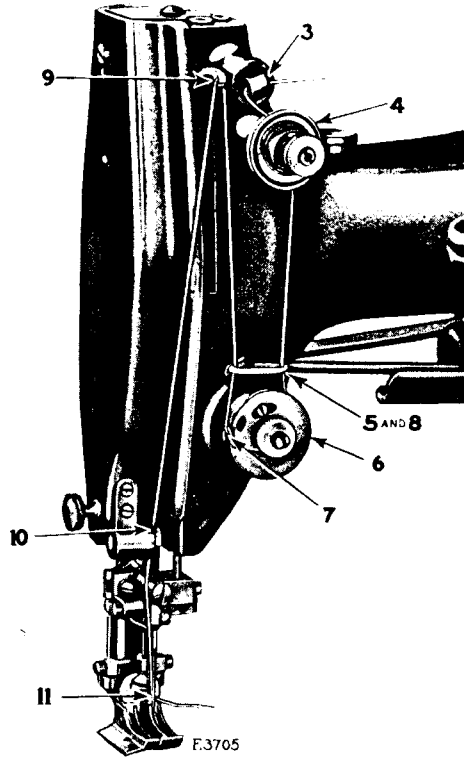
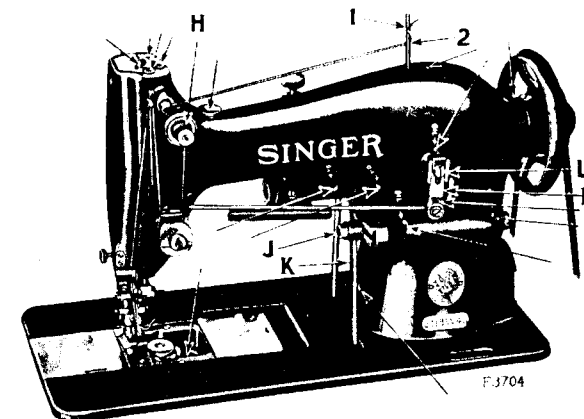

Fig. 8. Threading the Needle
Fig. 10. Oiling Points at the Front of the Machine
The length of stitch is regulated by moving the end of the connection (K, Fig. 10) which is fastened by the hexagon nut (J, Fig. 10) in the slide on the upright part of the arm. To increase the length of stitch, loosen the hexagon nut (J) and move the connection away from you in the slide. To shorten the stitch, move the connection toward you in the slide. When the desired length of stitch has been obtained, tighten the hexagon nut (J). Care should be taken to see that the length of stitch is adjusted according to the material which is being sewn. A stitch that is too short will not leave a sufficient number of threads between the openings in fine material. If the stitches are made too close together, they may be cut by the piercer.
(See Figs. 8 and 10)
Pass the thread from the unwinder from back to front through the upper hole (1, Fig. 10) in the pin on top of the machine,
from right to left through the lower hole (2, Fig. 10) in the same pin, into the thread guide (3, Fig. 8), down around the right side between the tension discs (4), down through the thread guide (5), down and from right to left around the thread controller (6) into the thread controller spring (7), up and through the thread guide (8), from right to left through the hole in the end of the take-up lever (9), between the discs of the thread guide (10) from the front, and from left to right through the eye of the needle (11).
The tension on the needle thread is regulated by the thumb nut (H, Fig. 10) at the front of the tension discs. To increase the tension, turn this thumb nut over toward the right. To decrease the tension, turn the thumb nut over toward the left.
The width of bight of the needle is regulated by moving the end of the needle vibrating lever pitman connection (M, Fig. 10) which is fastened by the screw (L, Fig. 10) on the front of the machine. To increase the width of bight, loosen the screw (L) and move the connection (M) downwardly. To decrease the width of bight, move the connection upwardly. When the desired width of bight has been obtained, tighten the screw (L).
The places where the machine should be oiled are indicated in Figs. 10, 11, 12 and 13, by arrows pointing to the oil holes and bearings.